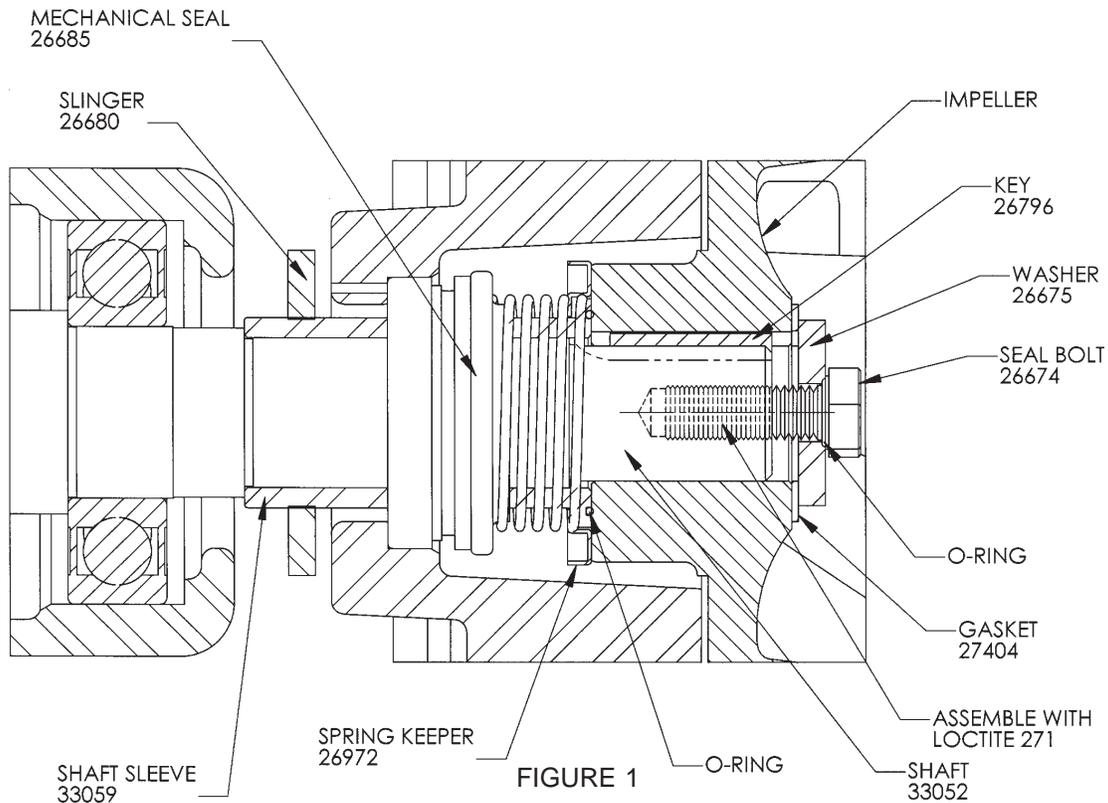

FIGURE 1
1. The impeller sealing gaskets could be worn or defective causing leakage through the sleeve.(See Figure1). When the pump is operating this leakage can be detected by visual inspection of the juncture between sleeve and the shoulder on the pump shaft.